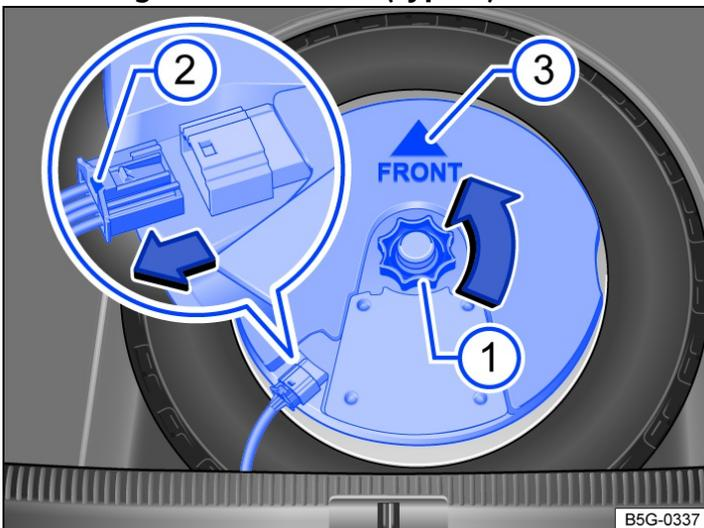

Fig. 2 In the luggage compartment: removing subwoofer (type 2).
2. Unscrew handwheel → Fig. 2 (1) in the direction of the arrow.
3. To release the connector, press the catch on the end of the plug → Fig. 2 (2).
1. Place the subwoofer carefully in the rim base. The tip of the arrow symbol "FRONT" → Fig. 2 (3) on the subwoofer must face forwards.
2. Plug in the connector until the catch → Fig. 2 (2) audibly engages.
3. Screw the handwheel → Fig. 2 (1) onto the threaded pin in the direction of the arrow until the subwoofer is secured in place.